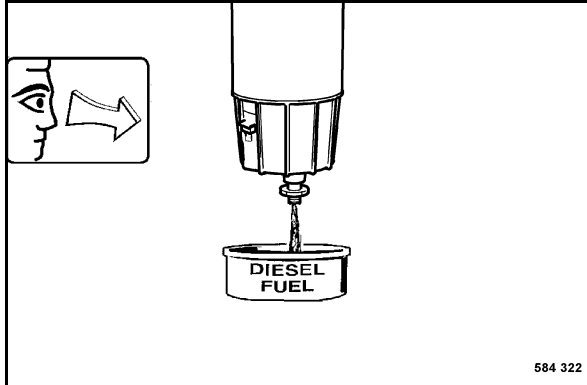

Fig. 141
- Slacken the drain plug (Fig. 141) for a few turns and catch running out fuel / water.